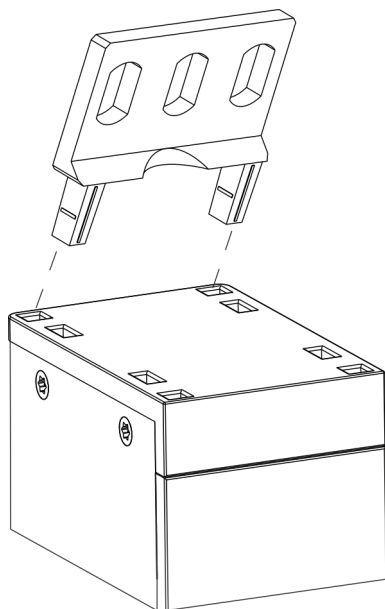

Fig. 17: Fitting the plug-in brackets
1. ➤ Insert the plug-in brackets into the rear slots on both sides (Fig. 17).